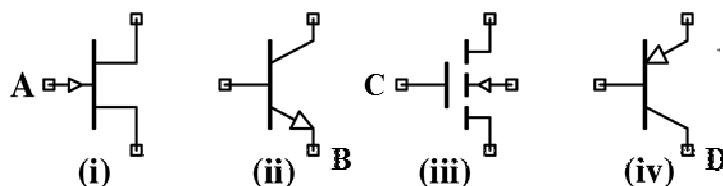

Figure 5.1
- a. Figure 5.1 shows the symbols for four types of transistor: n-p-n BJT, p-n-p BJT, MOSFET, JFET. Four of the terminals of these symbols have been labelled with letters A, B, C & D. Identify each of (i), (ii), (iii) and (iv) with the appropriate transistor name and write down the names of terminals for A, B, C & D. (8)